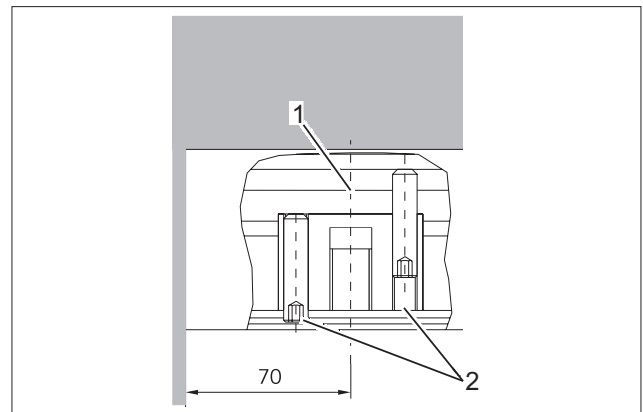

Fig. 19 Positioning the upper pivot bearing
6. Position the pivot bearing (Fig. 19/1) center-lined in the track rail 70 mm from the wall (65 mm pivot + 5 mm wall/panel space) (Fig. 19).
7. Tighten the threaded pin (Fig. 19/2) on the upper pivot bearing.